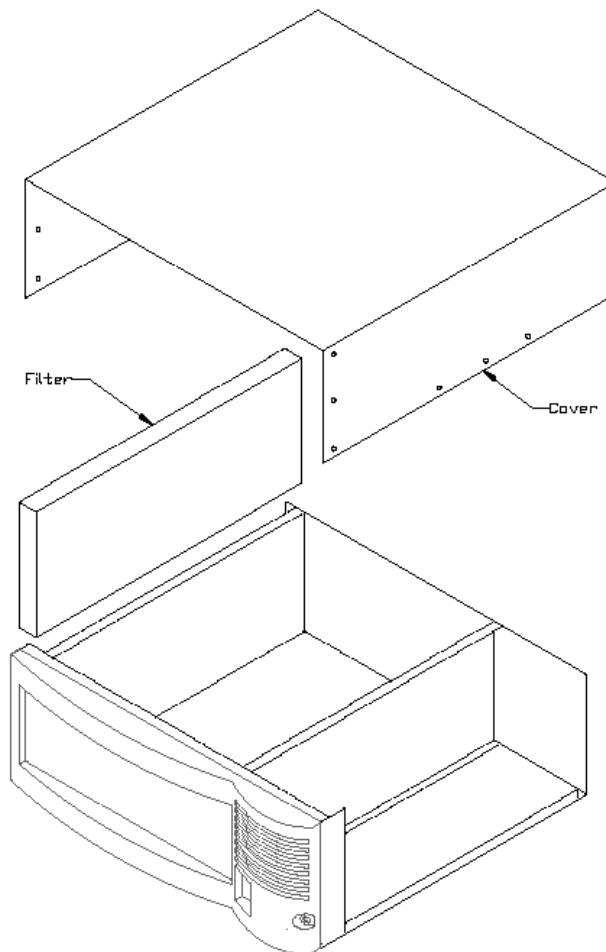

Figure 8. Removing the Chassis Cover and Filter
1. Remove the front three vertically aligned screws and the middle three horizontally aligned screws from each side of the chassis, as illustrated in Figure 8.